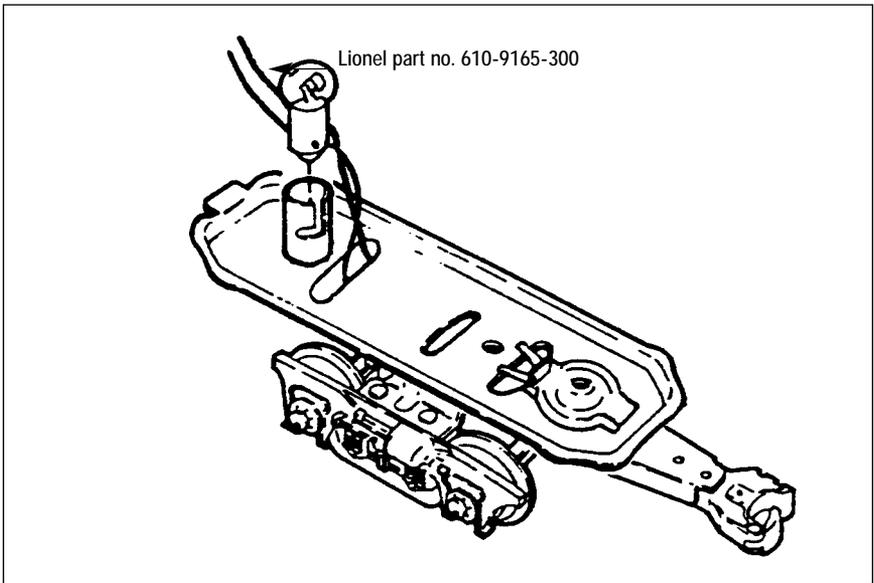

Figure 4. Lamp replacement
4. As illustrated in Figure 4, replace the bulb with Lionel part no. 610-9165-300, available at your local Lionel Service Center or Lionel Service.